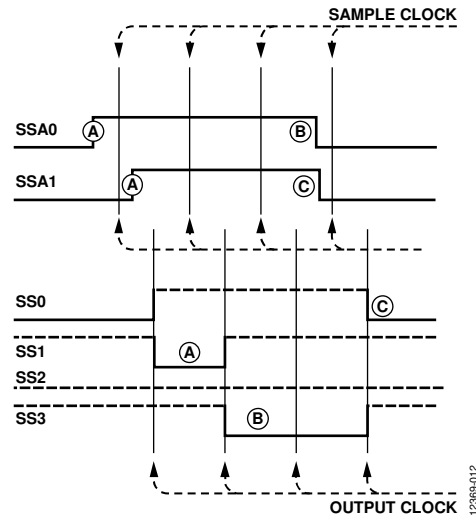

Figure 12. Mux Select Timing
Figure 12 illustrates the behavior of the SSA0 and SSA1 channels. This diagram assumes that MSS is low and that SS0, SS1, SS2, and SS3 are pulled up.
The following details the mux select timing shown in Figure 12:
- Point C: This point in Figure 12 shows a clean transfer between SS3 being active and SS0 being active. The mux was designed to eliminate any short duration metastable states between any two selected outputs.